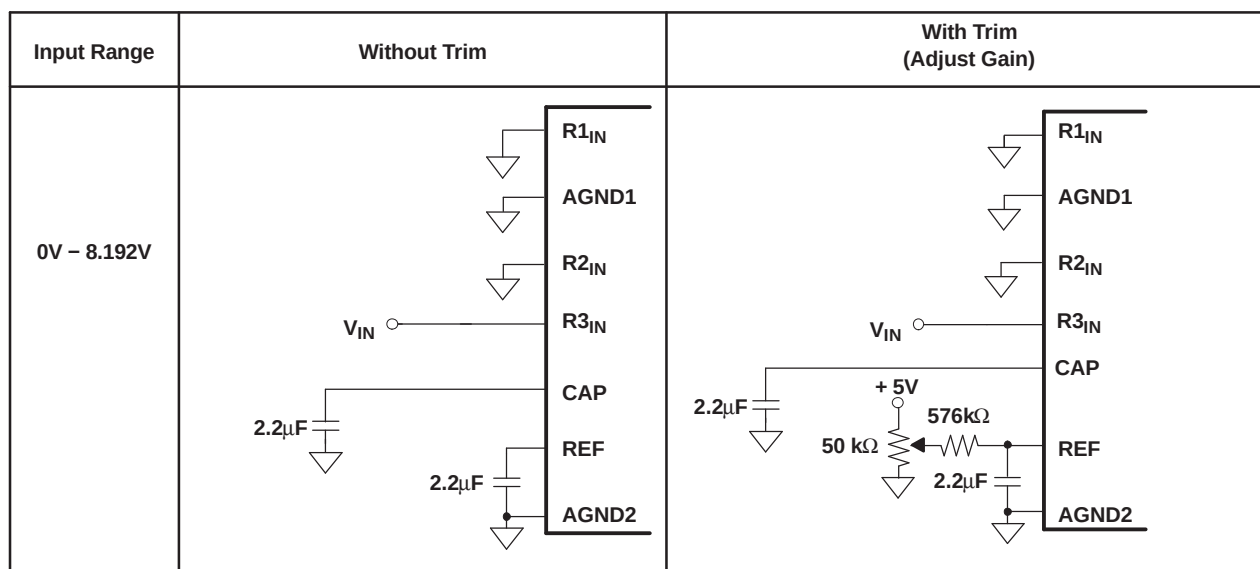
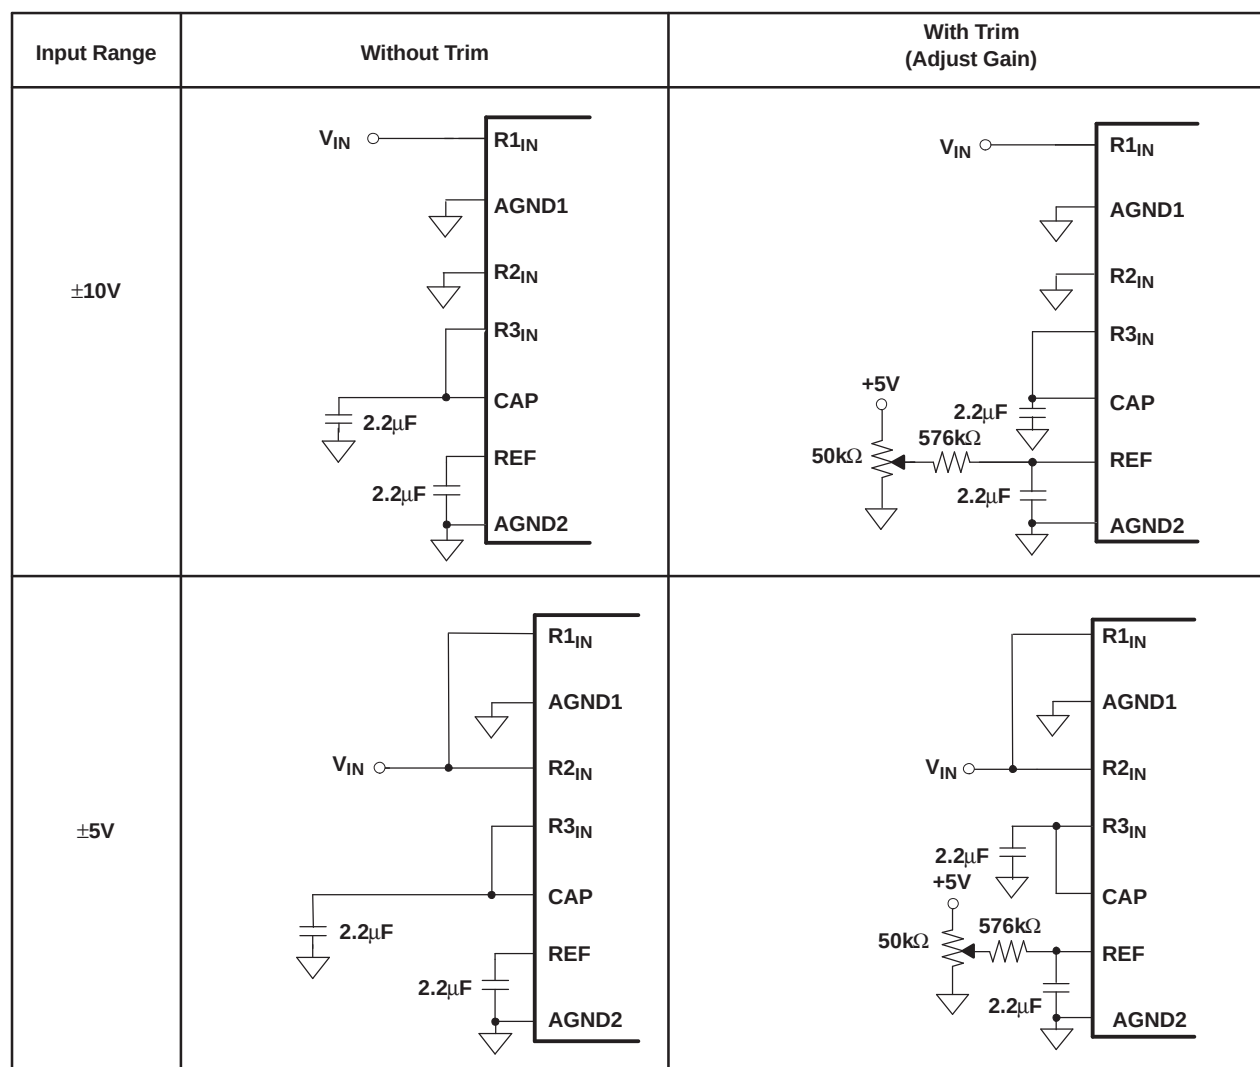
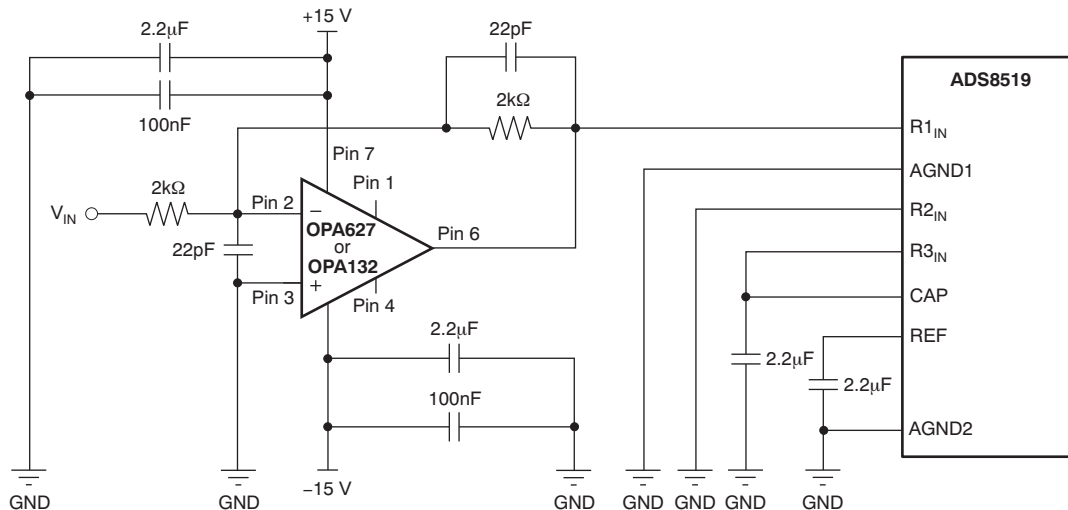
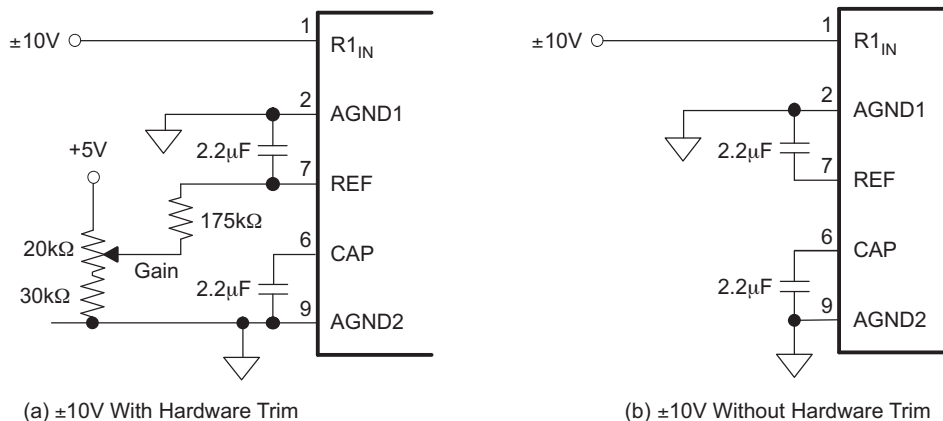

Figure 29. Offset/Gain Circuits for Unipolar Input Ranges
Figure 30. Offset/Gain Circuits for Bipolar Input Ranges
Figure 31. Typical Driving Circuitry ($\pm 10\text{V}$, No Trim)
Figure 32. Gain Adjust Trim
The ADS8519 has three analog input ranges, as shown in Table 3. The offset specification is factory-calibrated with internal resistors. The gain specification is factory-calibrated with 0.1%, 0.25W, external resistors, as shown in Figure 29 and Figure 30. The external resistors can be omitted if a larger gain error is acceptable or if using software calibration. The hardware trim circuitry shown in Figure 29 and Figure 30 can reduce the error to zero.
(see Figure 29 and Figure 30 for complete information)
Analog input pins $R1_{IN}$, $R2_{IN}$, and $R3_{IN}$ have $\pm 25V$ overvoltage protection. The input signal must be referenced to AGND1. This referencing minimizes the ground-loop problem typical to analog designs. The analog input should be driven by a low-impedance source. A typical driving circuit using the OPA627 or OPA132 is shown in Figure 30.
- Changed Figure 29 - Changed Figure 30 - Changed Figure 31 - Changed Figure 32	18 19 20 21